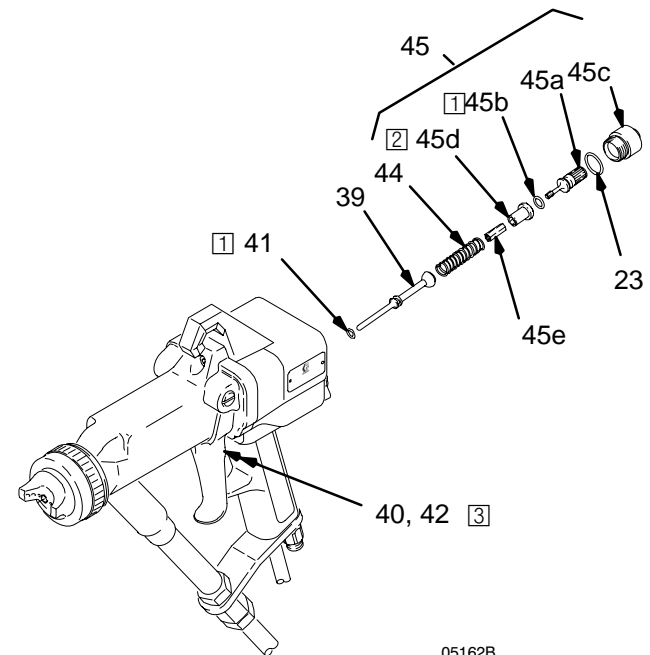

Fig. 22
2. Using a 14 mm socket wrench, remove the fluid adjustment assembly (45). See Fig. 22, page 36.
- Using a 14 mm socket wrench, remove the fluid adjustment assembly (45), o-ring (23), and spring (44). See Fig. 22.
- Loosen the air valve packing nut (40) one full turn. Remove the air valve shaft (39) with a pliers.